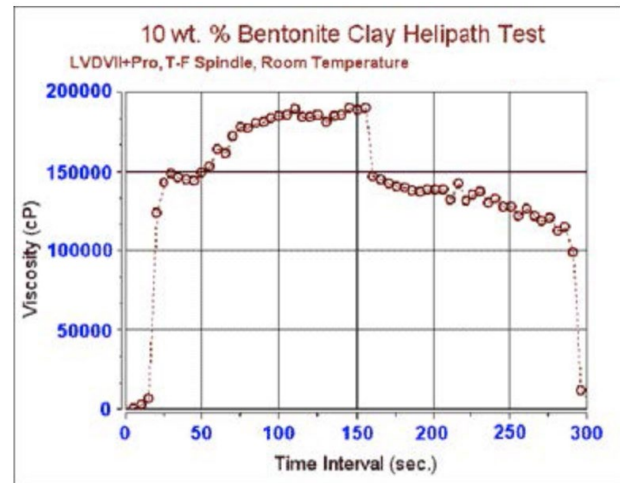

Figure 1
- Figure 1: Shows data captured during the test.